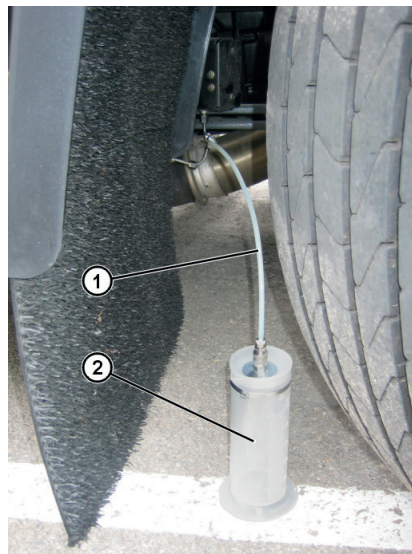

Fig. 6: Metering quantity measurement
3. Connect the pressure gauge 0 kPa – 160 kPa (fig. 6, item 1) to the T- piece (fig. 6, Item 2) and securely fix to the vehicle.
4. Connect the test spray nozzle (fig. 6, item 3) (measuring restrictor) to the T-piece using the second test pressure line and fix to the vehicle at a suitable point with the magnetic stand.
5. Connect the measuring tank (fig. 6, item 2) to the test pressure line (fig. 6, item 1).